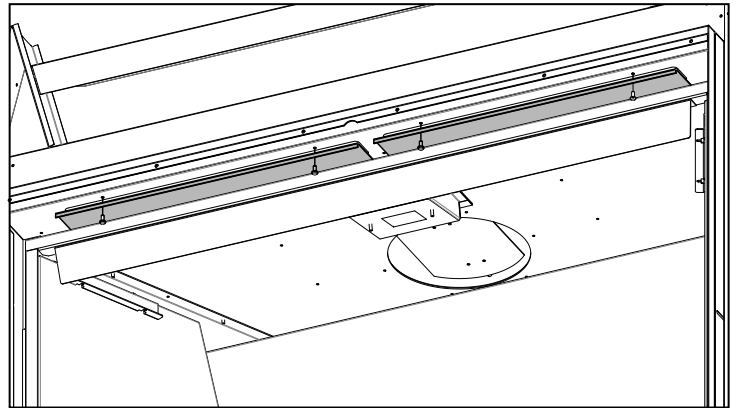

Figure 37: CSS Cover Plates
Step 4. Remove the two cover plates on the ceiling of the unit. These are secured by four (4) T-20 screws. See Figure 37.